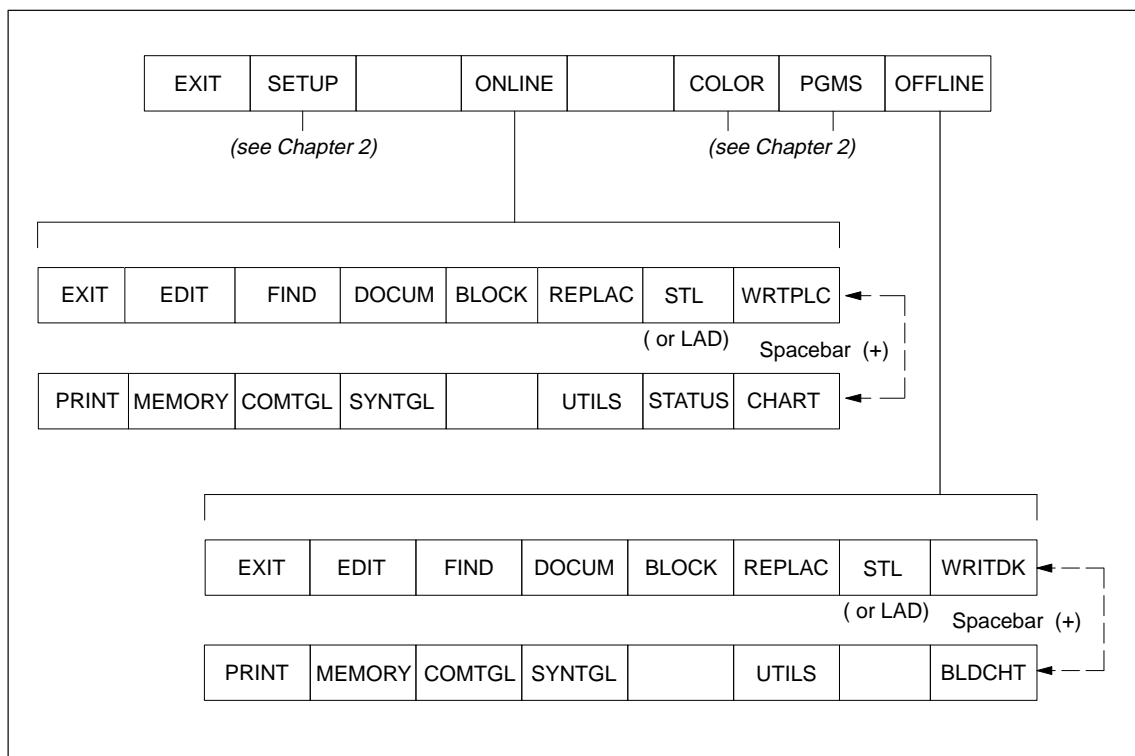

Figure 3-1 STEP 7–Micro/DOS Function Keys
STEP 7–Micro/DOS menus are accessed through function keys, or hard keys, available after you select online or offline. Figure 3-1 shows the function keys you use to select all primary operations. For example, the first set of keys is displayed on the start-up screen. The second set, after selecting online, is your access to all online operations. The last set, available in the offline mode, enables you to perform all offline functions.